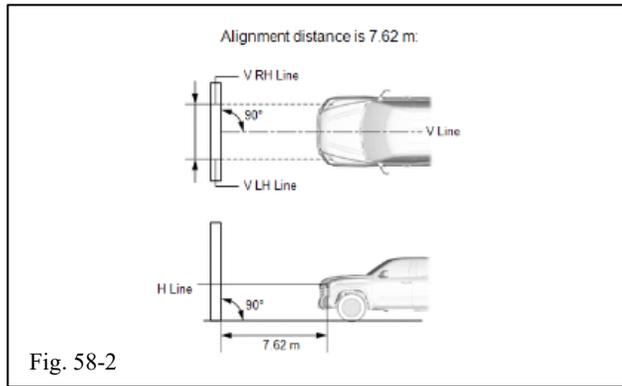

Fig. 58-2
- (3) Create a 7.62 m (25 ft.) distance between the vehicle (center marks of the headlight) and the wall (Fig. 58-2).